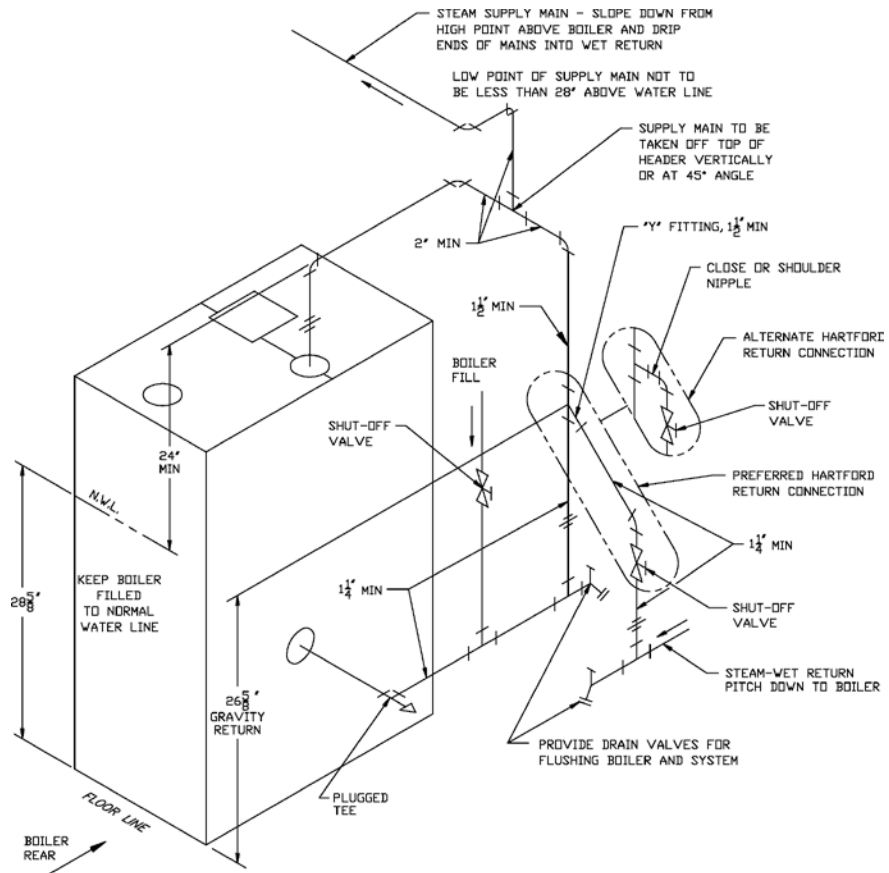
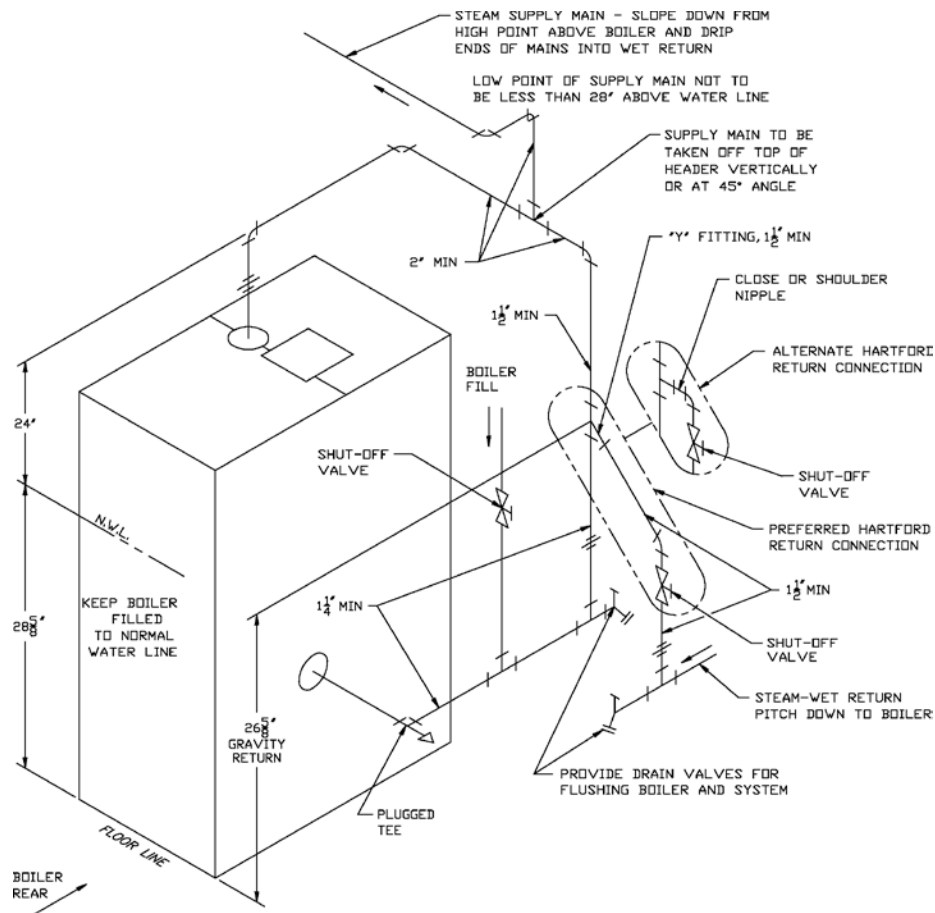

Figure 4: Steam Piping, PIN3PV
Figure 5: Steam Piping, PIN4PV, PIN5PV and PIN6PV
- B.** Connect system supply and return piping to boiler. Refer to Figure 4 for PIN3PV or Figure 5 for PIN4PV, PIN5PV and PIN6PV. Also consult I=B=R Installation and Piping Guides. Maintain minimum 1/2 inch clearance from combustible materials.